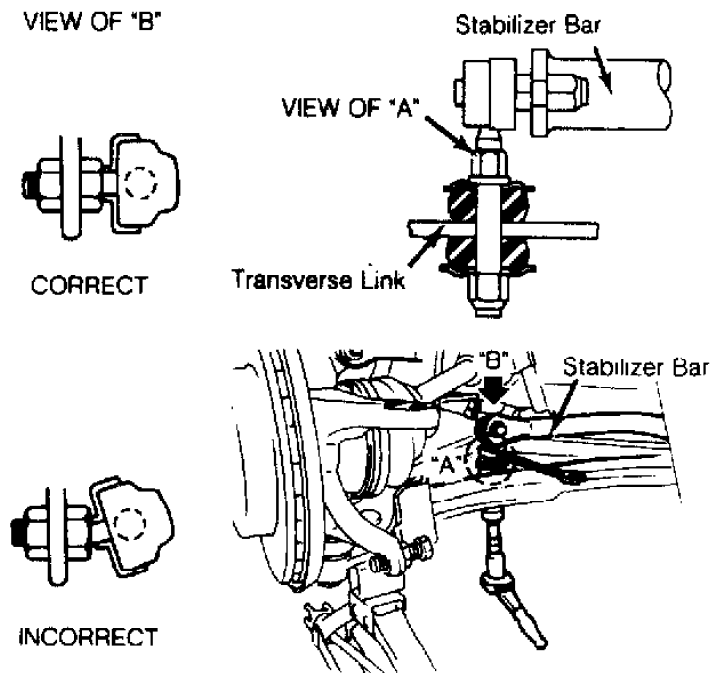

Fig. 4: Installing Stabilizer Connecting Rod
1) Raise and support vehicle. Remove nut, washer and spacer retaining stabilizer bar to transverse link by holding upper nut while removing lower nut. See Fig. 4. Mark position of "U" clamps to ensure installation to original location. Remove "U" clamps retaining stabilizer bar to gusset. Remove stabilizer bar.
2) To install, reverse removal procedure. Ensure stabilizer connecting rod is positioned properly. See Fig. 4. Tighten nuts and bolts to specification with vehicle on ground. See TORQUE SPECIFICATIONS table at the end of this article.